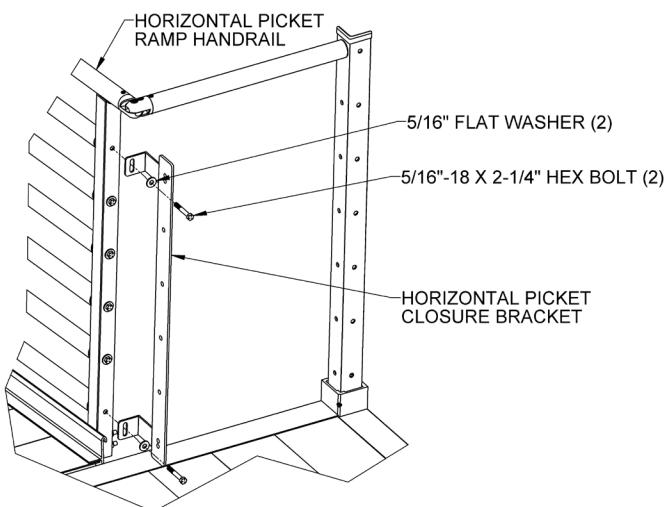

FIG. 5.18
5.7.1. The Horizontal Picket Closure includes a special bracket that is attached to the ramp handrail post. If the ramp handrail has Horizontal or Vertical Pickets, remove the 5/16"-18 x 2-1/4" hex bolt and 5/16" flat washer attaching the upper and lower rail then reinstall through the slots in the horizontal picket closure bracket as shown in FIG. 5.18. If the ramp handrail is a Two-Line or all-welded handrail, use 5/16"-18 x 2-1/4" hex bolts and 5/16" flat washers with 5/16"-18 nuts to attach the bracket in the same manner (FIG. 5.18). Orient the bracket toward the platform post and align the holes in the bracket with the holes in the platform post as closely as possible, then tighten the fasteners lightly (enough to hold the bracket in place but still allow movement). If the ramp is centered, a second Horizontal Picket Closure is needed and is installed in the same manner described below.